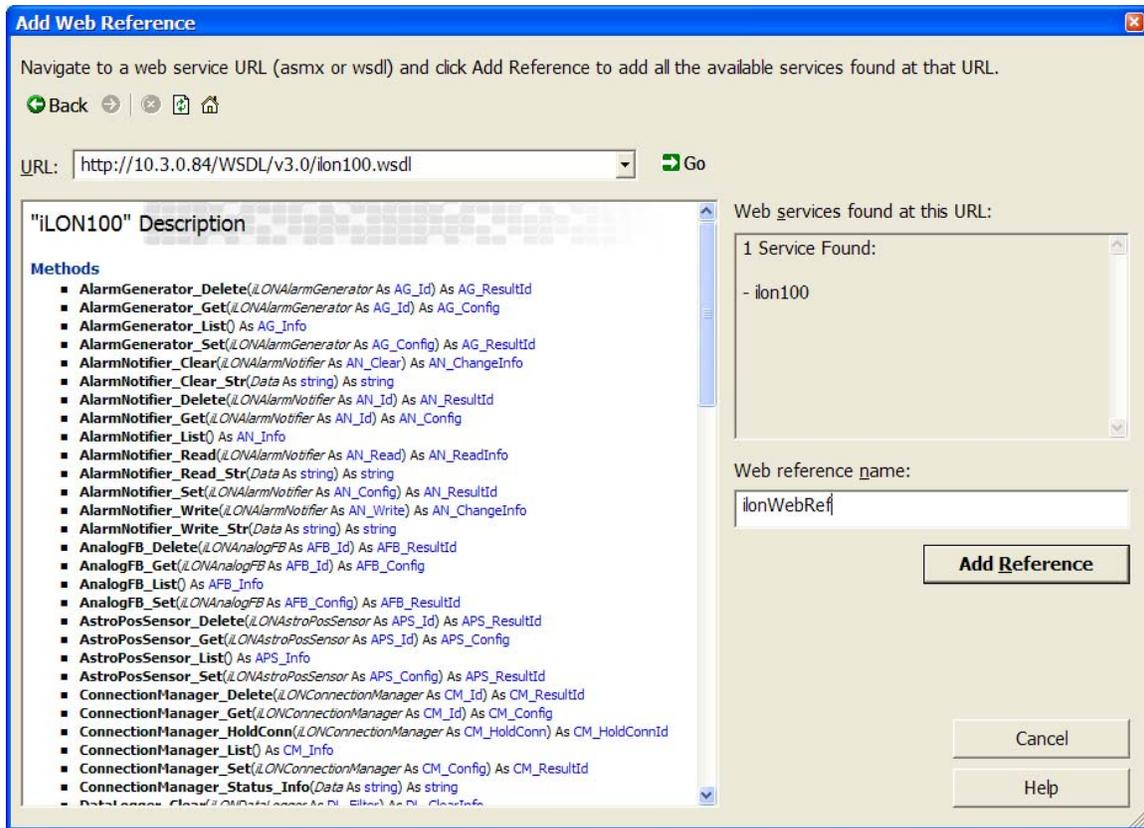

Figure 13.2 Add Web Reference Window
- Click **Go**, and then enter a name for the Web reference in the **Web Reference Name** box. In Figure 13.2, the name chosen is “ilonWebRef.” You will use this name when you instantiate the Web services object, because this will become a name for the proxy class that will be generated automatically by Visual Studio .NET. This is described in more detail in the next section.